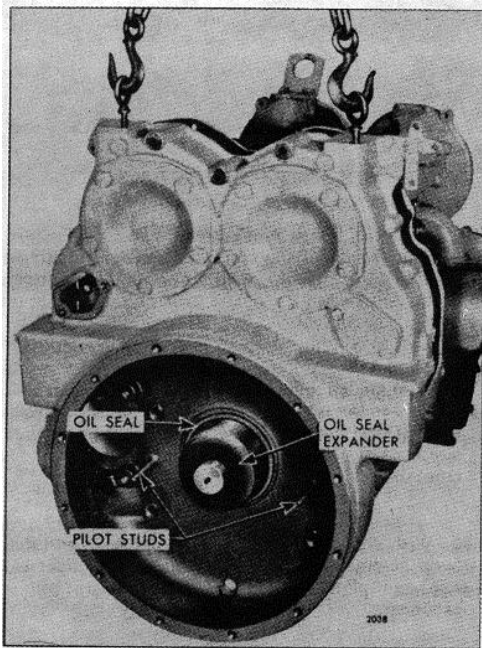

Fig. 1 - Removing or Installing Flywheel Housing
10. To guide the flywheel housing until it clears the end of the crankshaft, thread two pilot studs J 7540 into the cylinder block (Fig. 1).
5. Thread two pilot studs J 7540 into the cylinder block to guide the housing in place (Fig. 1). On In-line engines, to pilot the oil seal on the crankshaft successfully, use oil seal expander J 9769 (standard size seal) or J 21278 (oversize seal) on the end of the crankshaft.